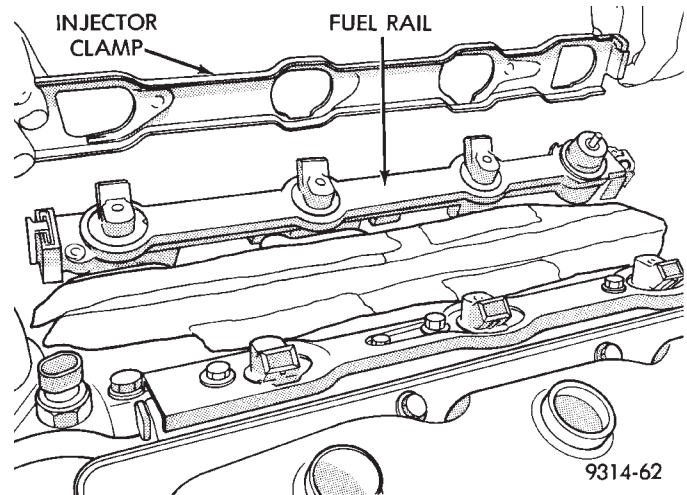
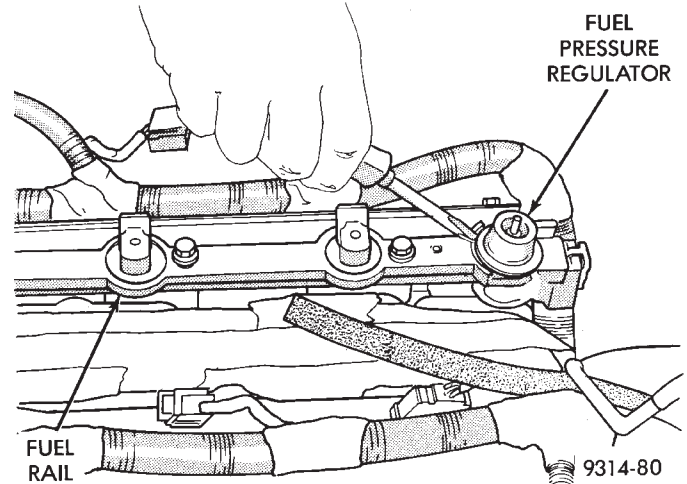

Fig. 26 Injector Clamp Removal/Installation
Fig. 27 Fuel Pressure Regulator Removal
(6) Slide the injector clamp toward the rear of the engine, then lift the clamp off of the rail (Fig. 26).
(7) Install fuel rail mounting bolts finger tight.
(8) Using a thin flat screwdriver, pry the fuel pressure regulator out of the fuel rail (Fig. 27).